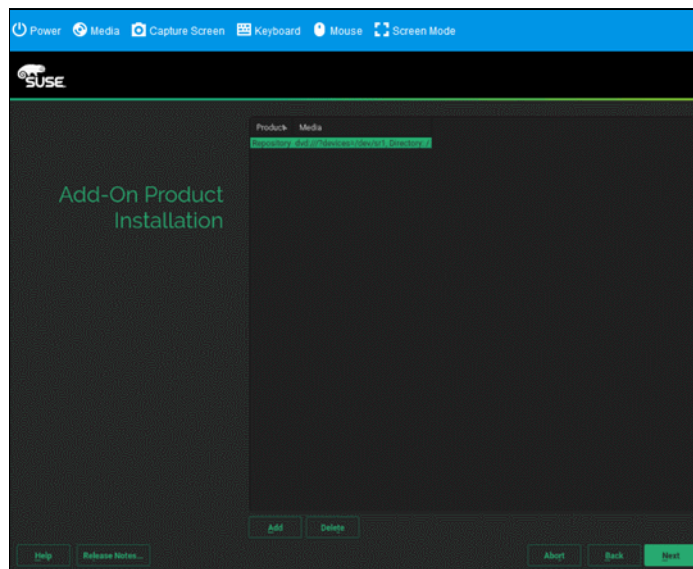

Figure 6-47 Add on product for additional drivers
14. Once the repository has loaded the drivers, you can add and delete new repositories from the following screen as shown in Figure 6-47. The controller drivers are now installed. Click **Next** if there are no additional drivers to add.